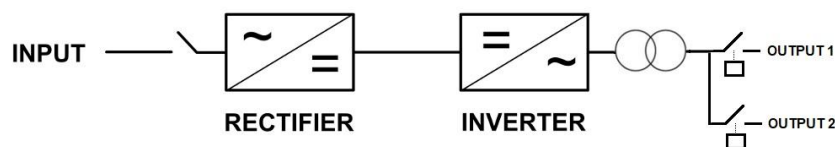

Figure 29 – Dual output equipment generic diagram
If you have a dual output equipment, this chapter is for you, otherwise you can skip it. Everything that has been said so far is valid, the main difference is that in this solution there are two output contactors that work independently, see Figure 29. Thus it is possible to have control over output 1 and output 2 with the on/off button (1) on the respective display page. The status of the output contactors can be seen through the led (5) and (8), if on/closed, (5) turns green and (8) orange, if off/open, (5) turns orange and (8) without any light.